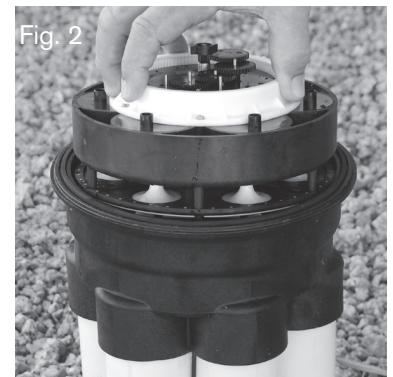

Fig. 3
3. Remove any down jet or returns in pool (threaded or slip) including down jet body for a secure fit of winterizing plug. Store with module(s). (See Fig. 3)